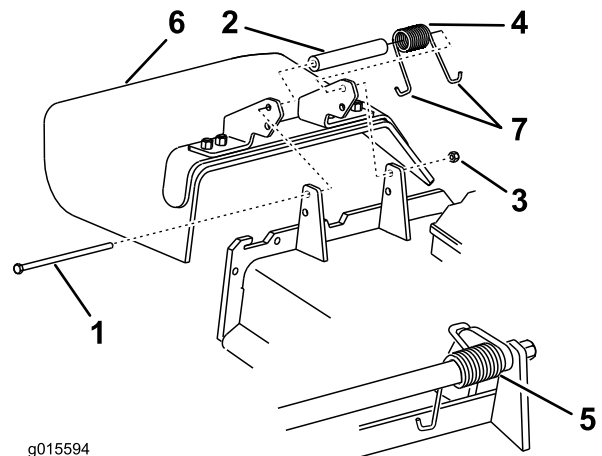

Figure 94
1. Remove the locknut, bolt, spring, and spacer holding the deflector to the pivot brackets (Figure 94).
Note: Make sure 1 J end of spring is installed behind deck edge before installing the bolt as shown in Figure 94.
6. Place 1 J-hook end of the spring around the grass deflector (Figure 94).